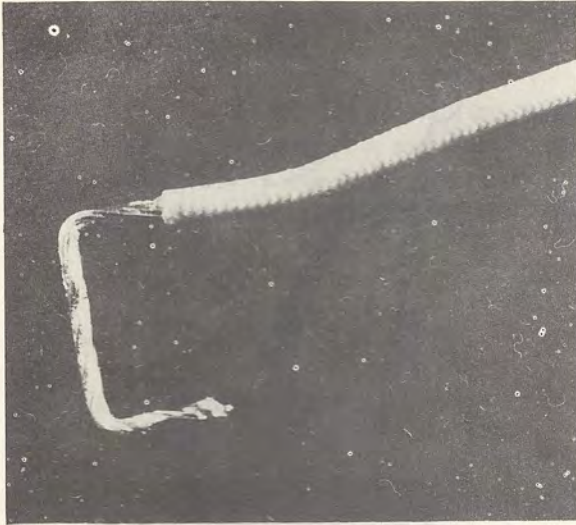

Fig. 8-6
Step 2. Twist the strands together on each end and tin them lightly. With your long-nose pliers, bend the one-inch tinned end into a hook, as shown in Fig. 8-6. Slip this hook through the hole in the lug of S_1B_8 and bring the end of the hook to S_1B_9 .